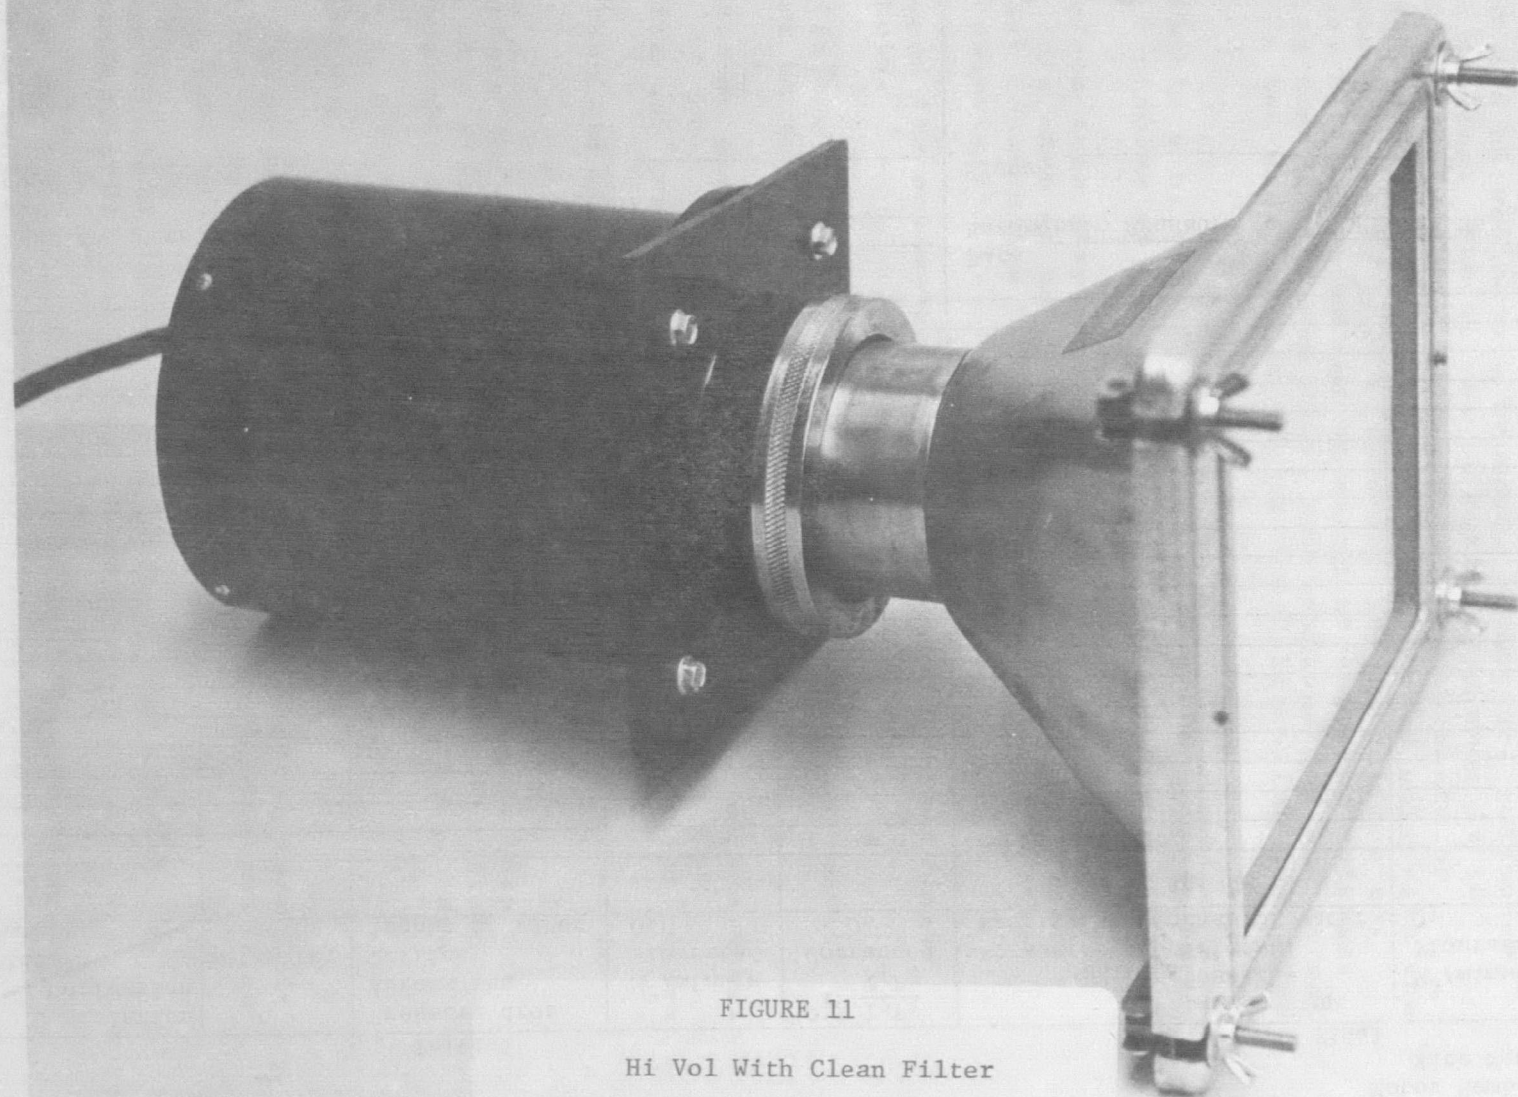

FIGURE 11
**Step #1:** Assemble a hi vol with a clean filter and operate it for at least 5 minutes at 115 volts. See Figure 11.